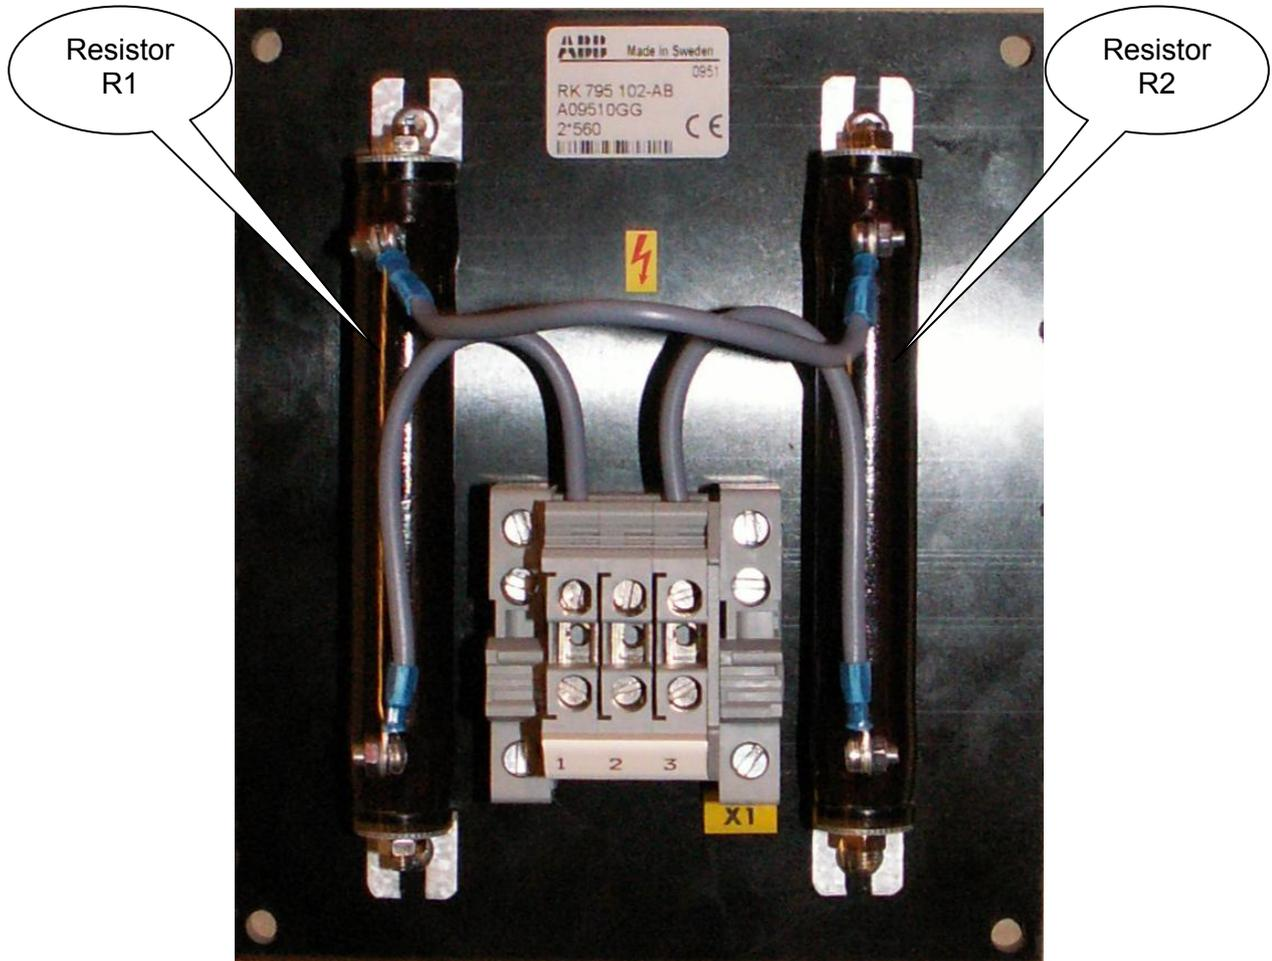

Figure 6: External resistor mounted on a plate
The external resistor is delivered mounted on an insulated plate with overall dimensions Height=160mm, Width=135mm suitable for wall mounting, see Figure 6. It actually consists of two resistors (i.e. R1 and R2) which are on delivery connected in series.
2. When external resistor shall be used its ohmic value should be the smallest one from the three values shown in Table 2, for which the total injected current (i.e. including all harmonic components, which flows through the RXTTE4 into the rotor) is smaller than 200mA. This limit is set in order to prevent internal RXTTE4 capacitor from overheating. In practice it might be easier to measure voltage across the external resistor instead (between terminals X1:1 and X1:3, see Table 2 and Figure 6) and then the following voltages shall not be exceeded: